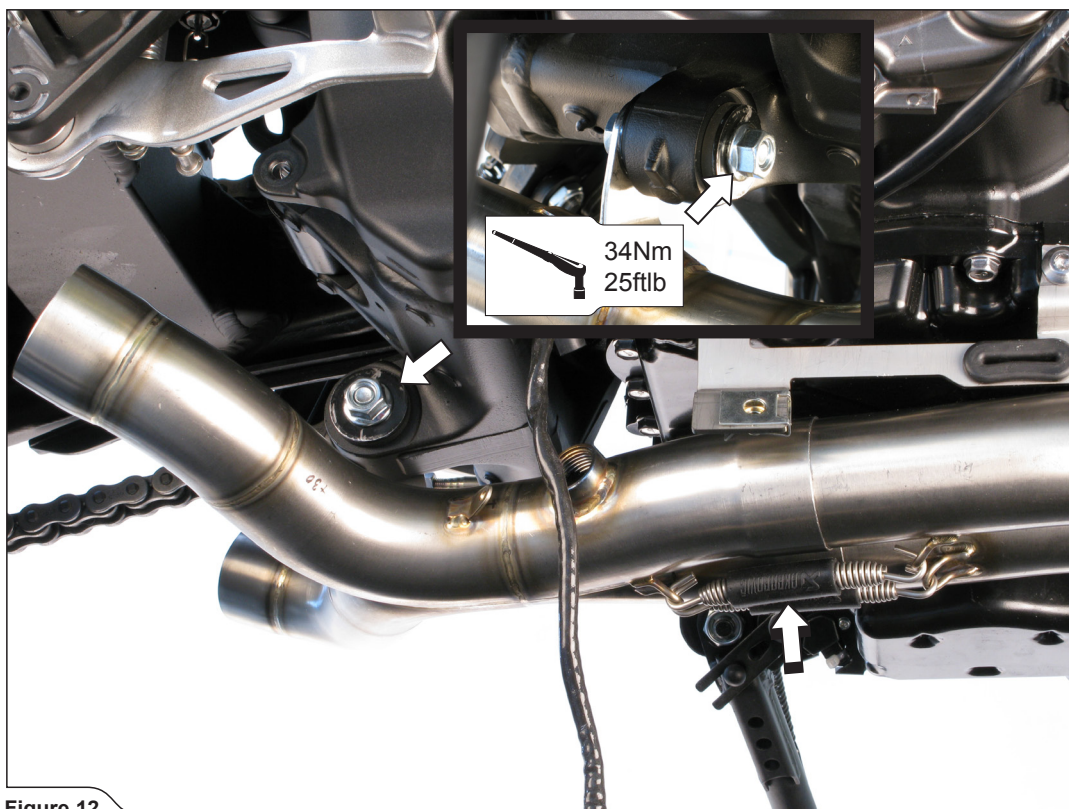

Figure 12
5. Slide the link pipe all the way onto the collectors. Attach the springs and tighten the link pipes' bracket onto the frame using M10x55 bolt and nut from Akrapovič installation kit (**Figure 12**).